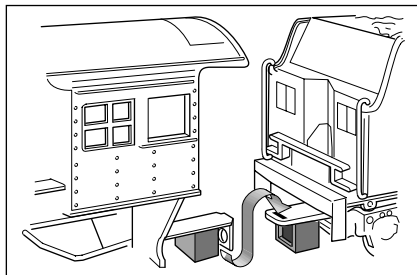

Figure 1. Drawbar connection
**With track power OFF**, connect the drawbar between locomotive and tender as illustrated in Figure 1. That's all you have to do with the Lionel Wireless Tether, an infrared communication system that eliminates the plugs and wires of the past.